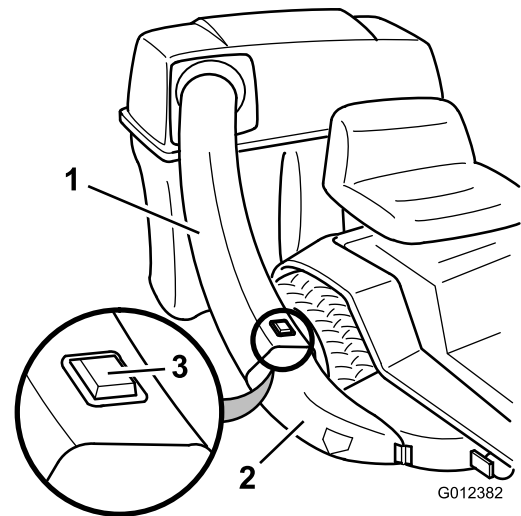

Figure 7
3. Slide the discharge tube into the opening in the grass catcher (Figure 7).
4. Slide the discharge tube over the end of the chute, ensuring that the tab on the chute snaps into the square hole in the discharge tube (Figure 7).
1. Push on the tab on the chute and pull the discharge tube free from the chute and grass catcher (Figure 7).